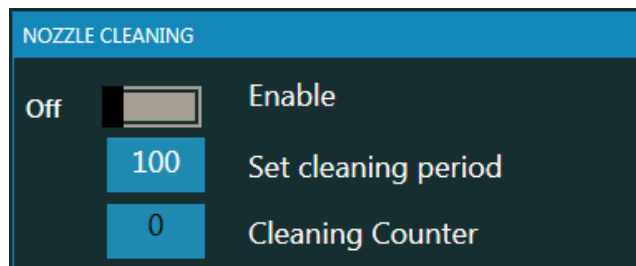

Figure 38
- **NOZZLE CLEANING:** On the top of the box the regarding function can be enabled or disabled by operator using the sliding menu (If the menu as **Figure 38** the function will be disabled).